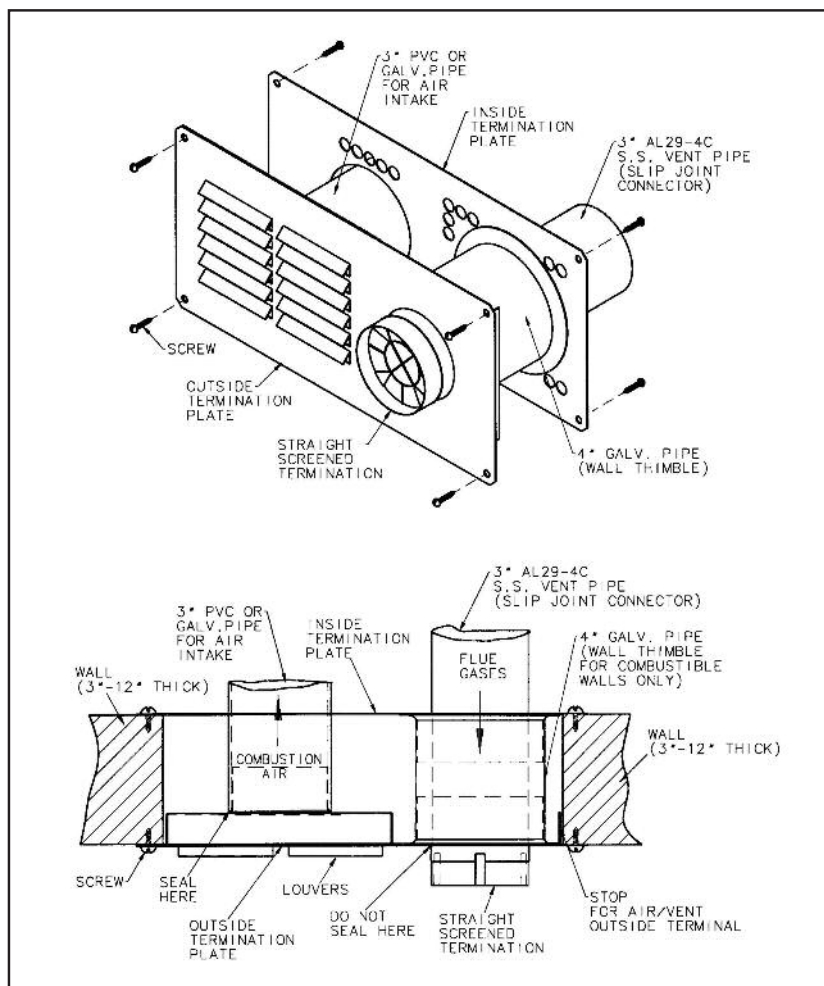

Figure 11. Vent/Air Intake Termination
2. Refer to Figure 11 for installation details.